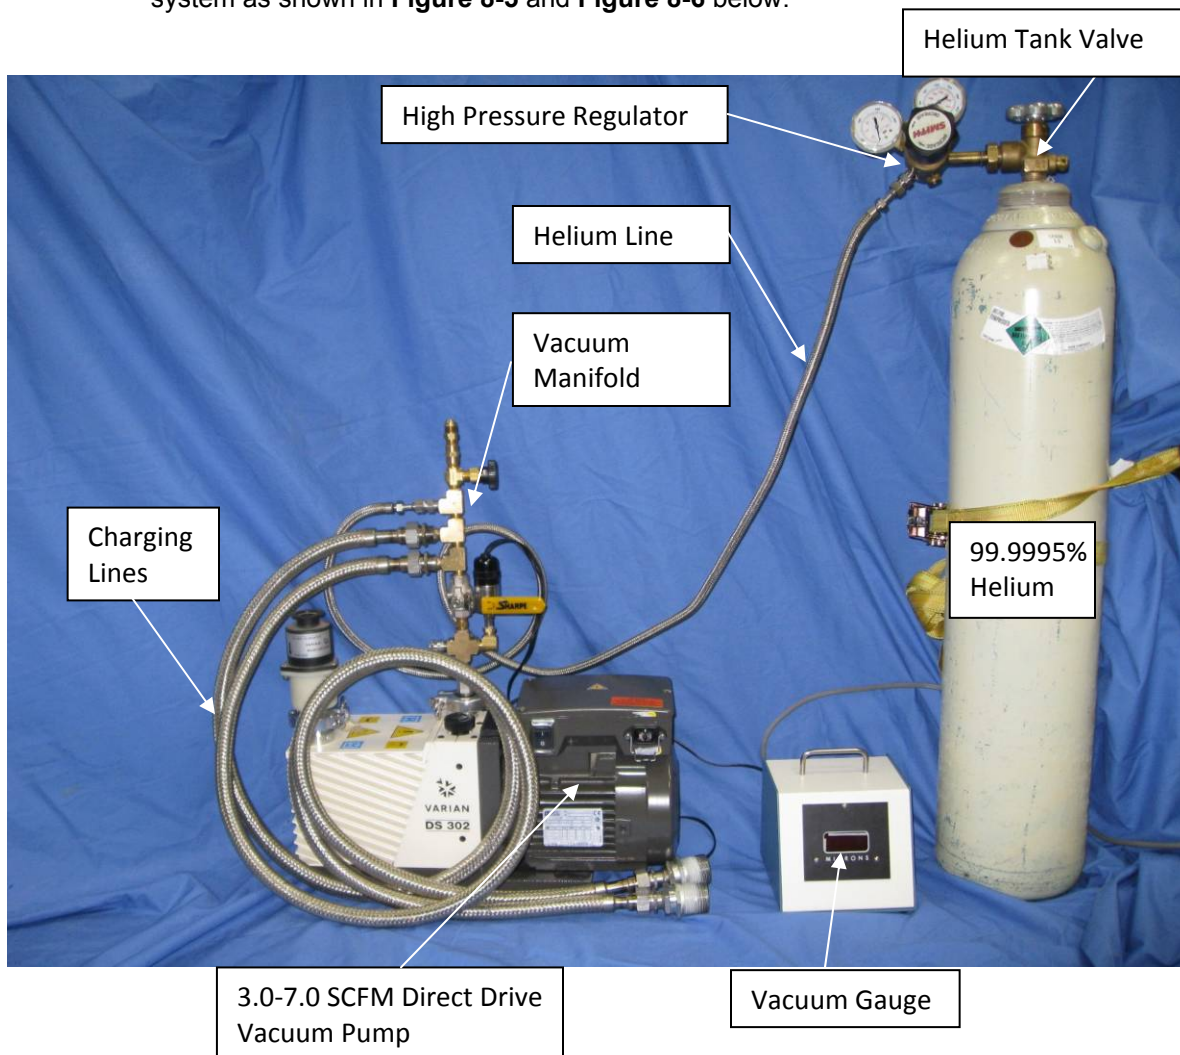
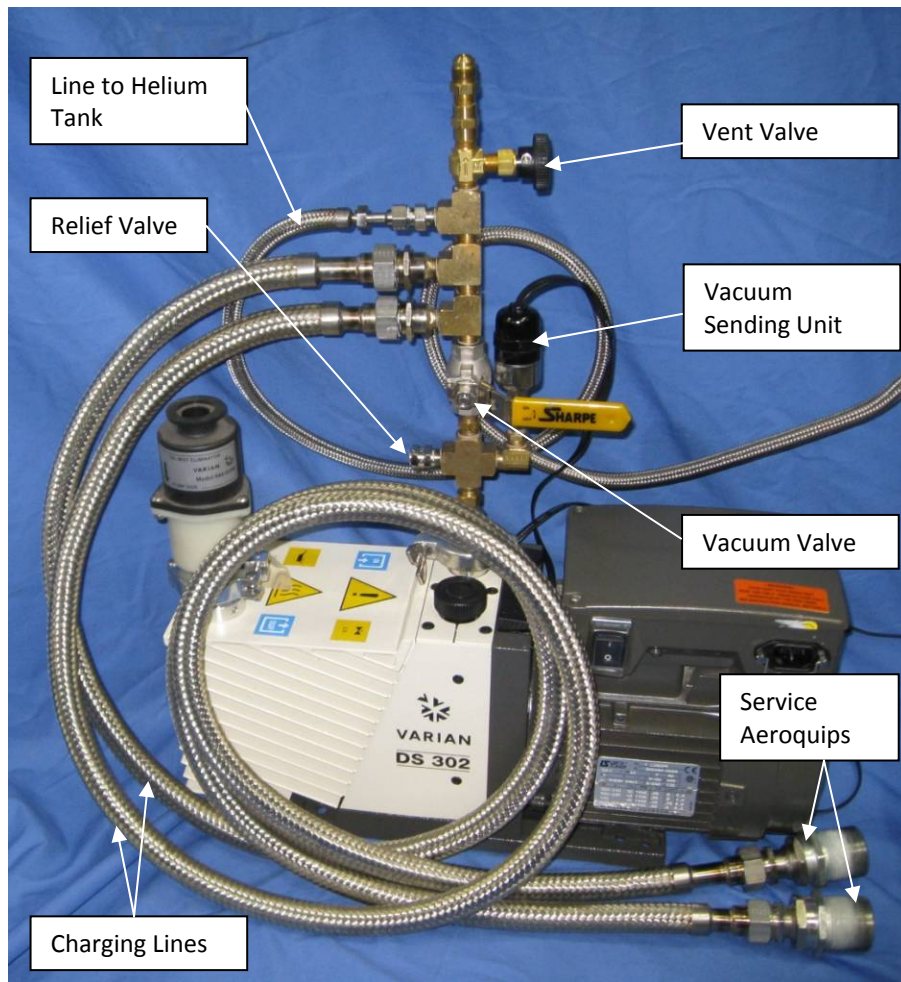

Figure 8-5: Vacuum/charging system
Figure 8-6: Close up of vacuum/charging manifold and pump
- 7. Attach a charging line from the service Aeroquip® to a typical vacuum/charging system as shown in **Figure 8-5** and **Figure 8-6** below.
5. Attach the opposite end of the evacuation/charging line to a typical vacuum/charging system as shown in **Figure 8-5**.